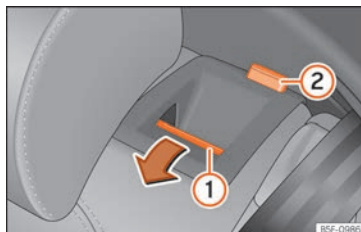

Fig. 113 Rear seat: folding the backrest.
- Pull the unlock button » Fig. 113 ① forward and lift the backrest at the same time. The rear seat backrest is not engaged when the red marking of the button ② is visible.